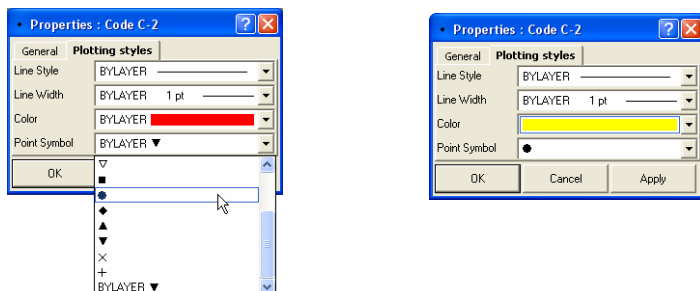

Figure 5-52. Select Outline Properties
3. On the *Plotting styles* tab, select the line style, line width, color and point symbol. The plotting style can be edited for any code with or without a layer (Figure 5-52).